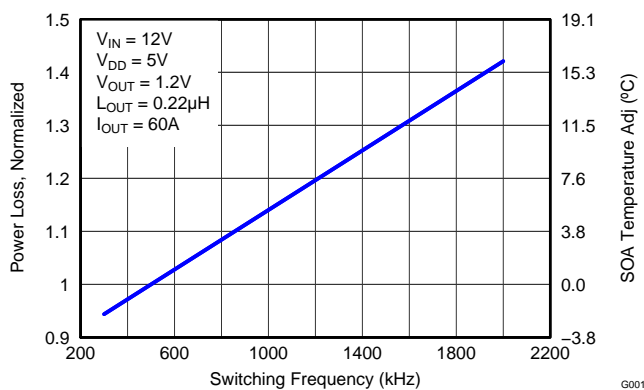

Figure 7. Normalized Power Loss vs Frequency
- Normalized Power Loss for switching frequency ≈ 1.08 (Figure 7)
- SOA adjustment for switching frequency $\approx 3.2^{\circ}\text{C}$ (Figure 7)